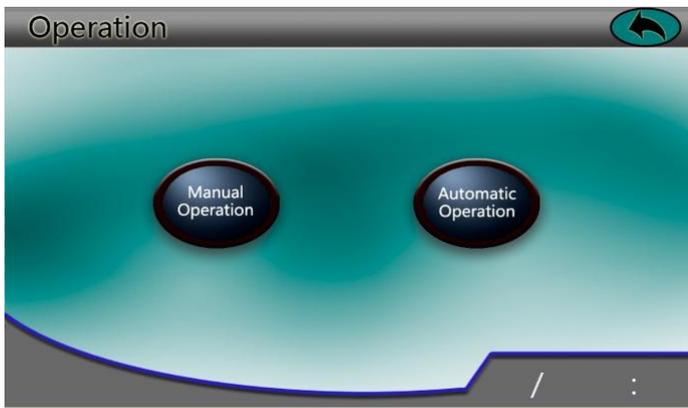
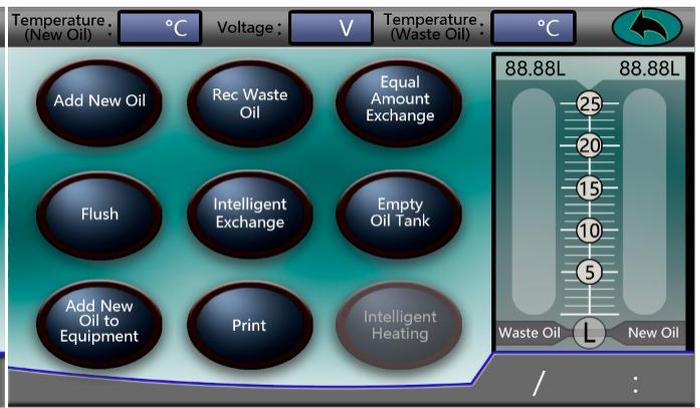

Fig.15
Fig.16
- 4.2 Turn on the power switch, select 'Operation'→'Automatic Operation'→'Intelligent Exchange' (Fig. 15&Fig.16).